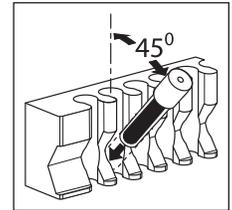

Figure 1
- a. Position indicator in metal block (see Figure 1). Place bottom of the indicator into the incubator's metal heating block so that the indicator is at an angle of approximately 45°.